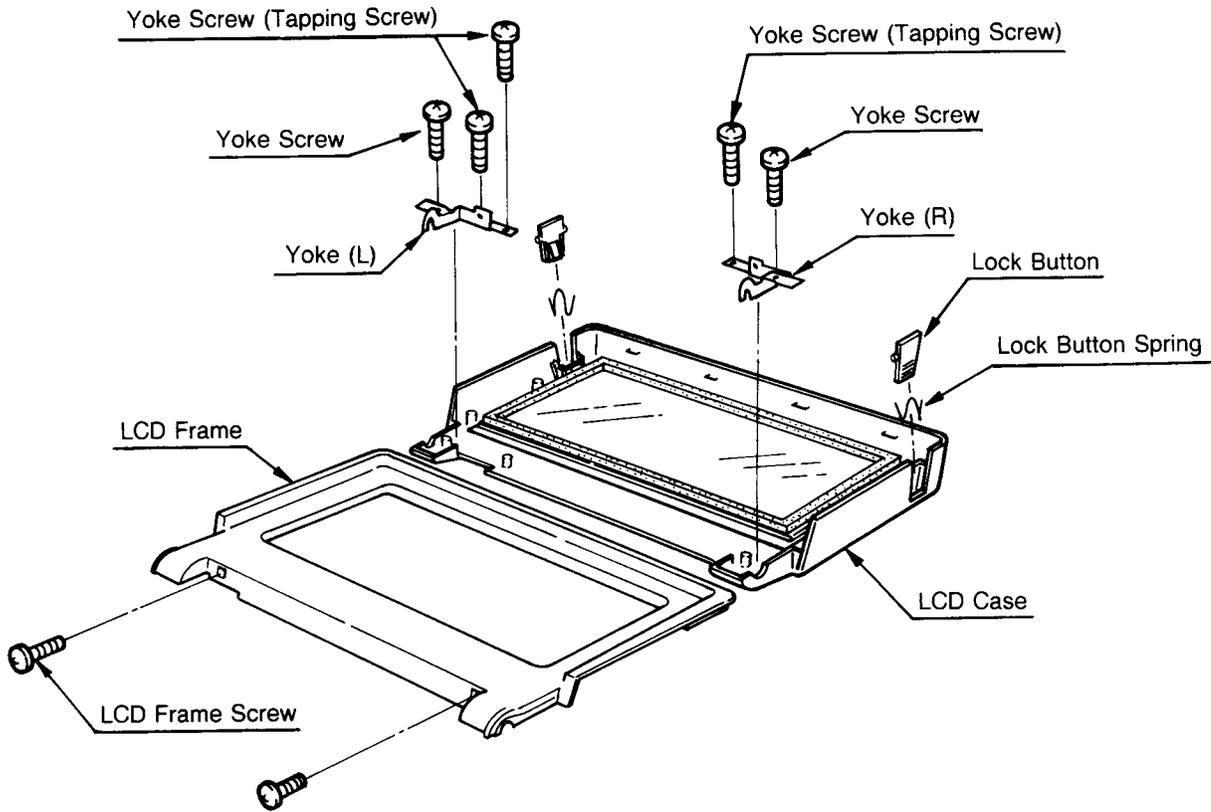

Figure 2-8. Exploded View of LCD Assembly
- (3) Turn over the Top Cover and remove two LCD Frame screws on both sides. (Figure 2-8)
- (4) Remove the LCD Frame, then remove two Lock Buttons and two Lock Button Springs on both sides.
(5) Remove the Yoke screws (three at the left, two at the right) and remove the Yokes.